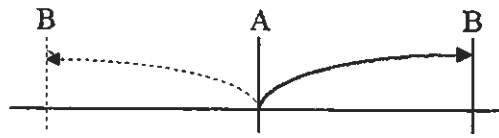

FIG.1
After that, operation the PB11 or PB12 push button switch (for rapid forward or backward). to sent the spindle seat to the first grinding edge of workpiece "A" (please refer FIG.1)
- * The wheel balancing base must be levelled (Fig. 1)